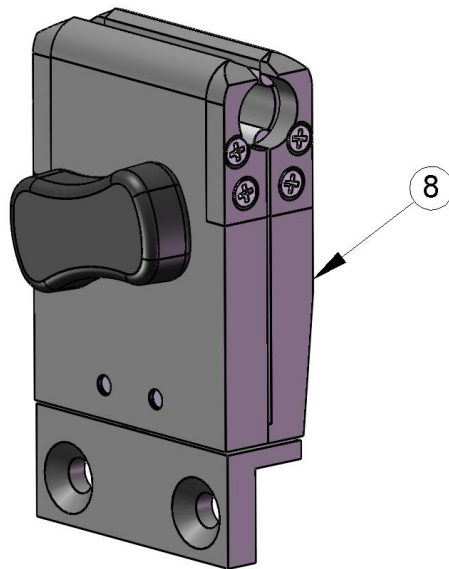

Fig 4
- b. Tighten screw knob to closure and install e-clip into groove on end of knob screw. See figures 4 and 5 on pages 13 and 14.